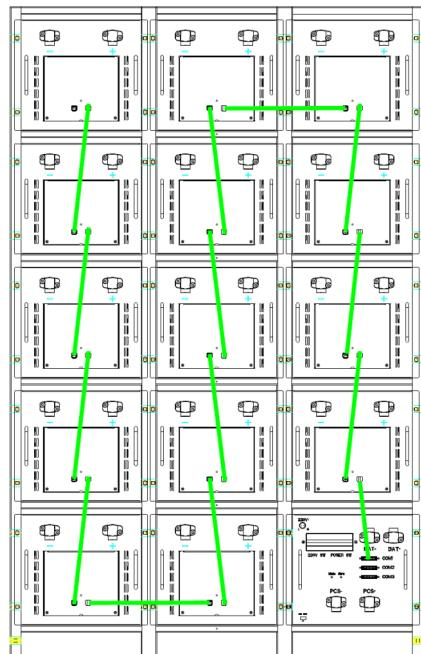

Figure 6-6 Battery rack communication line wiring diagram (for reference only)
2) According to the wiring position shown in Figure 6-6, each rack is connected to the battery module communication line in S-shape from the lower right corner.